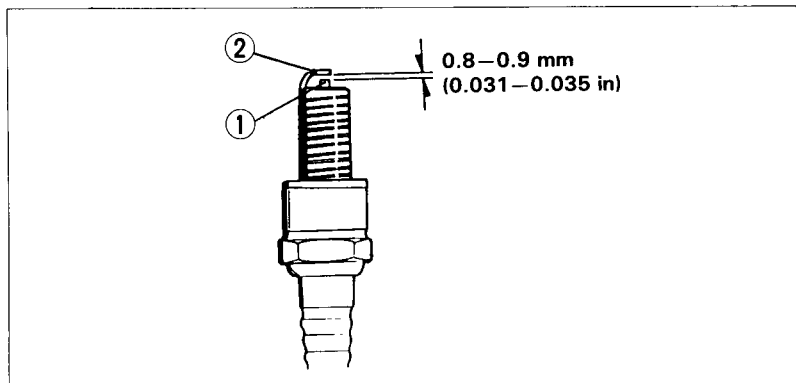

Fig. 4-15 (1) Center electrode (2) Side electrode
4. Visually inspect the spark plug electrodes for wear. The center electrode (Fig. 4-15) should have square edges, and the side electrode (2) should not be eroded. If the electrodes and insulator tip appear unusually fouled or burned, we suggest that you contact your authorized Honda dealer.